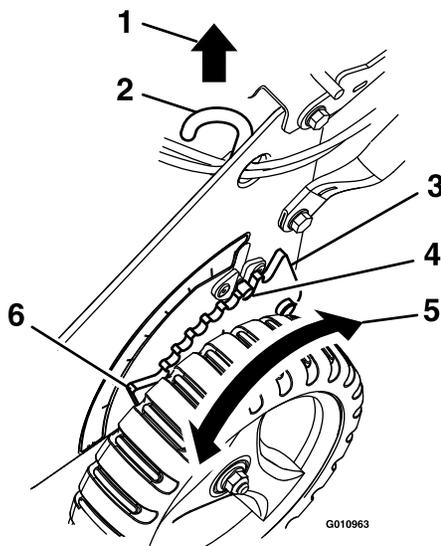
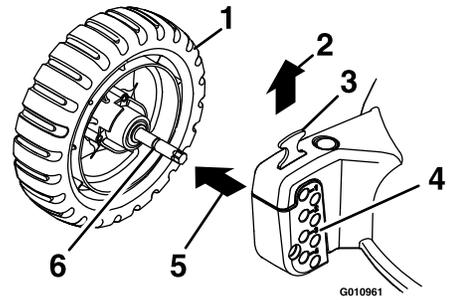

Figure 13
Figure 14
3. Set all four wheels to the 2 1/2 inches (6.4 cm) cutting height (see Figure 13 and Figure 14)
1. Pull the wheel height adjustment rod upward to release the pin from the notch in the adjustment bracket (Figure 13).
1. Pull up on the height adjuster and pull the front wheel shaft assembly outward as shown in Figure 14.